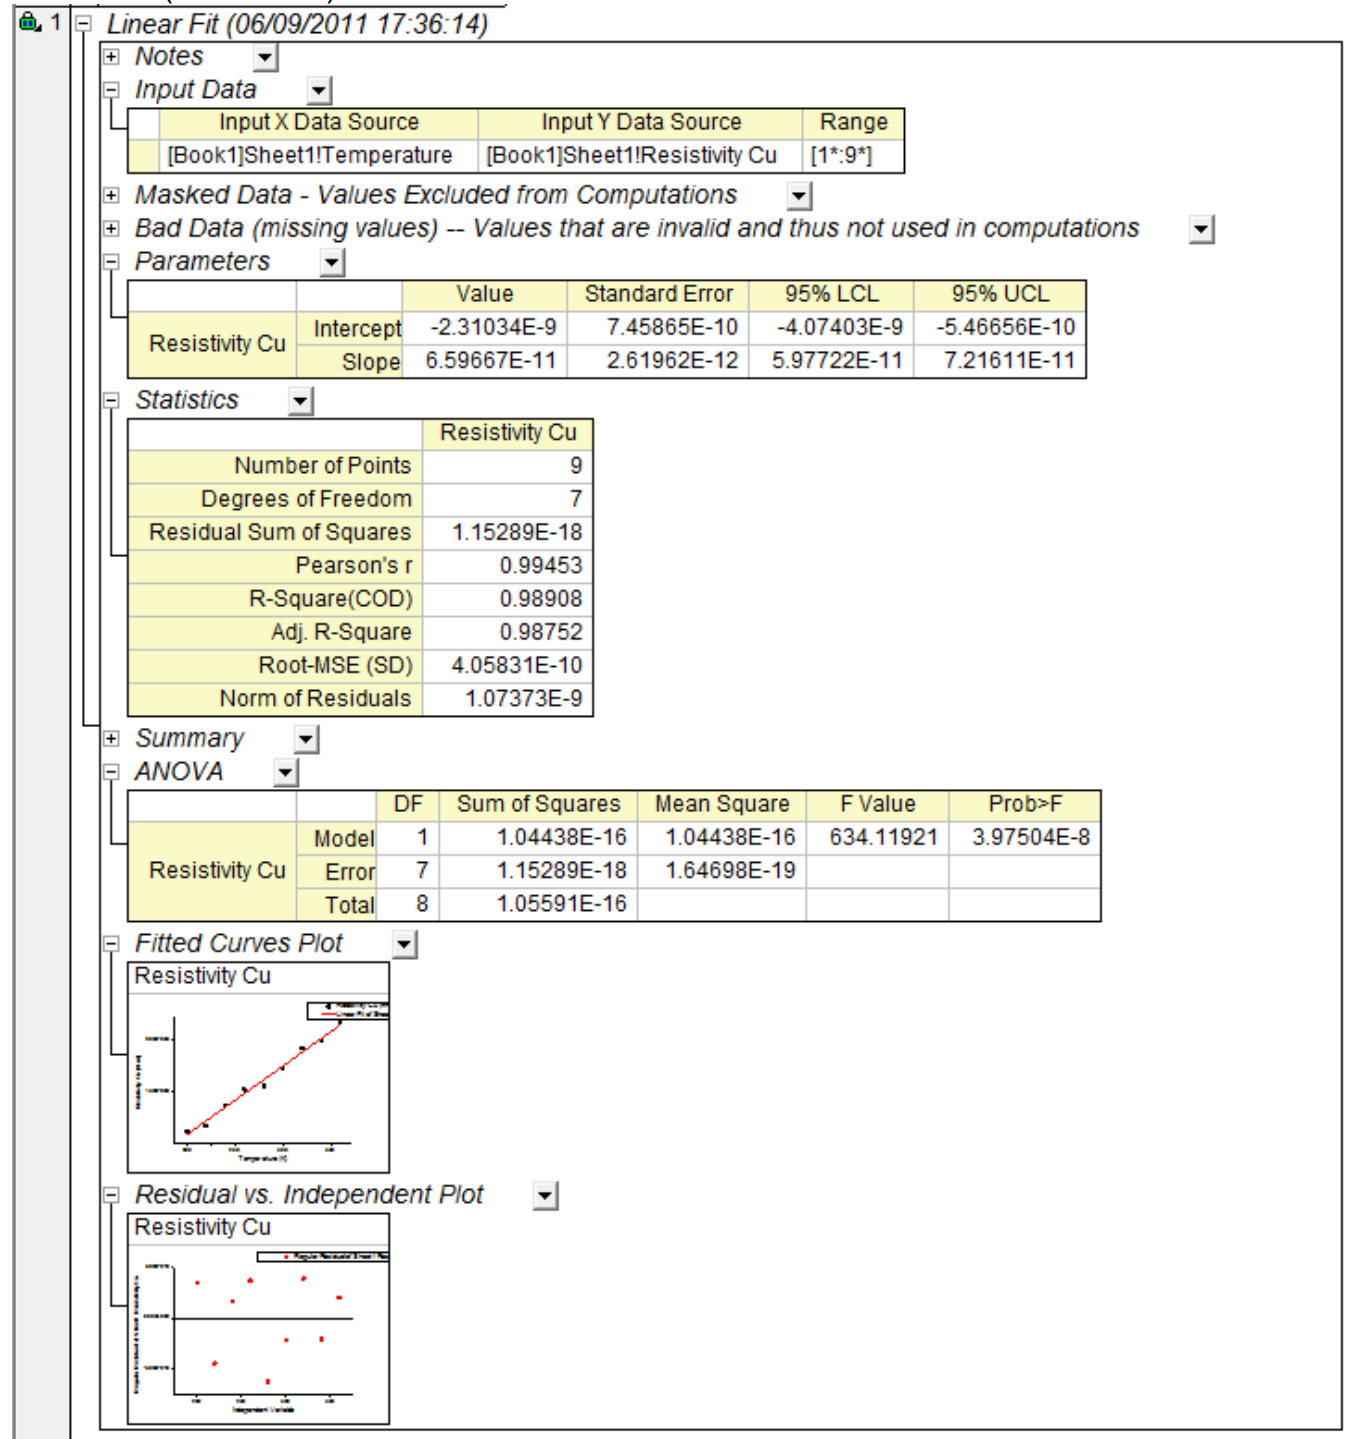

Figure 2 Results from simple linear regression of Cu resistivity data.
As well as the summary statistics box on the plot the fitting procedure can produce a lot more information on a different worksheet. An example, for the Cu resistivity data, is given in Figure 2.
decimal places. Thus from Figure 2 we would deduce that the intercept of the resistivity curve is at $(-2.31 \pm 0.75) \times 10^{-9} \Omega \text{ m}$.
- The Residual Sum of Squares RSS which is the sum of squares of the differences between the points and the fit line (see also the bottom plot in Figure 2)